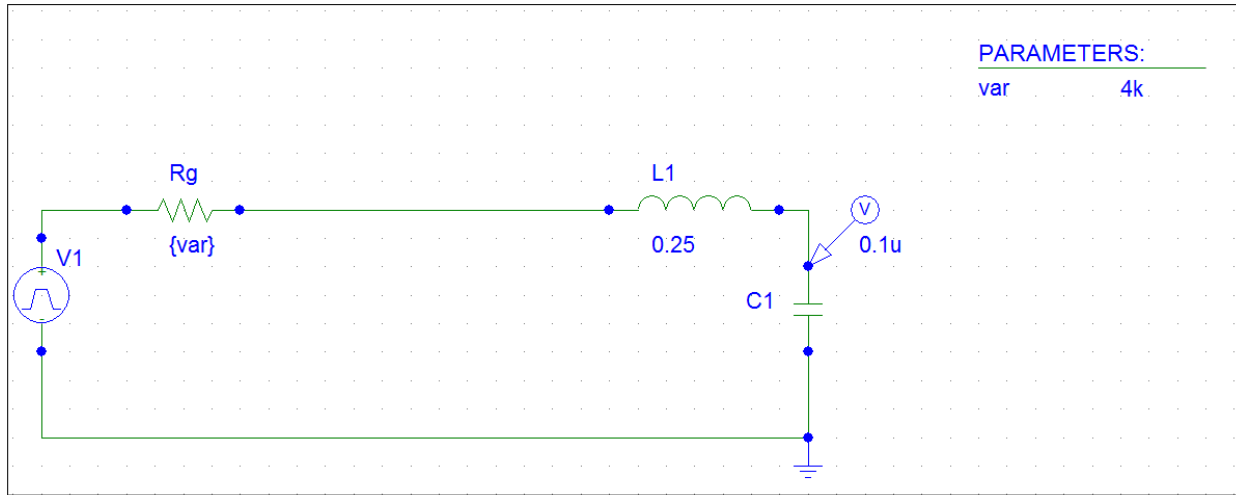

Fig 5.1: Series RLC circuit (example 5.1).
- 1- Construct the circuit which is shown in fig 5.1 using PSpice. (Initially neglect the parameters list on the right). Let $L=0.25$ H, $C=0.1\mu\text{F}$ and V_{pulse} ($V1=2$, $V2=0$, $T_f=T_r=T_d=0$, $\text{PER}=0.02$, $\text{PW}=0.01$).